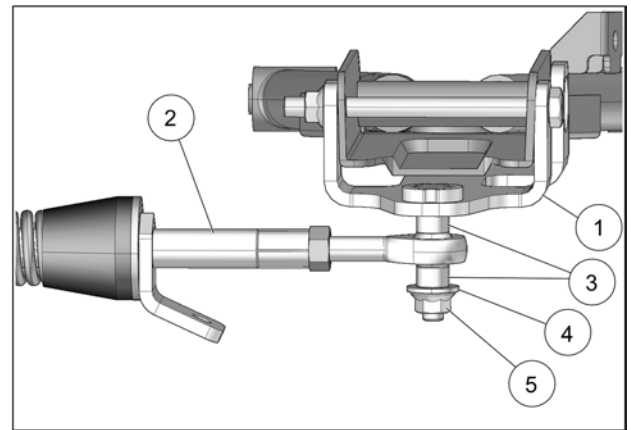

Fig. 11
- Attach stabilizing rod (**2**) to anchor bracket (**1**), using short spacer bushings (**3**), flat washer (**4**) and nut (**5**). Torque to 70 N•m [52 lb•ft]. See Fig. 11